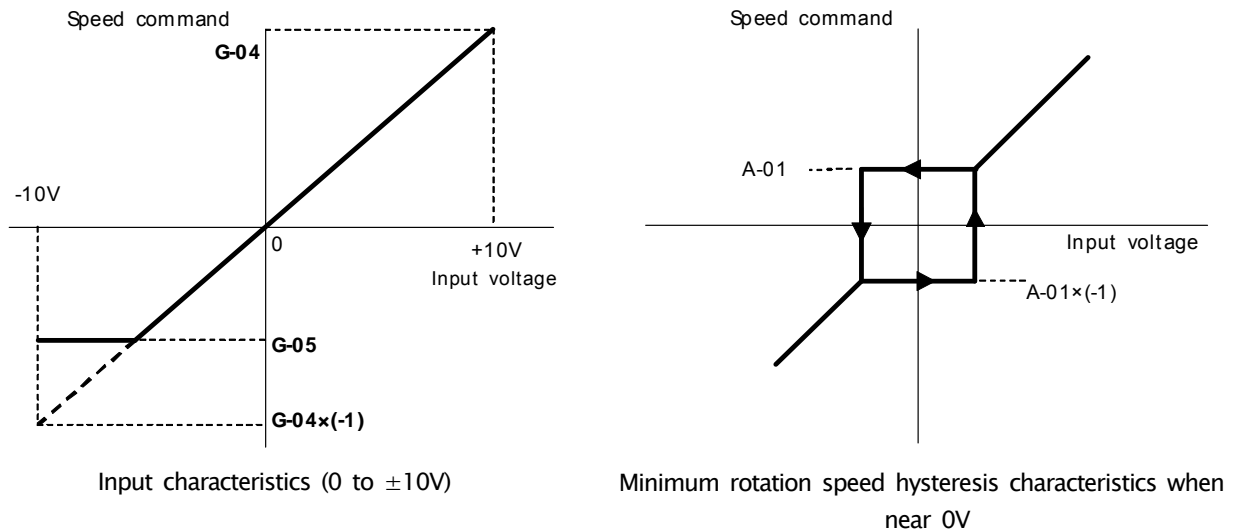

Figure 5.2 Speed command characteristics with voltage input of 0 to ±10V
The rotational direction can be reversed by setting the command input voltage to a negative value. The rotation speed command value is set as the analog input (2) rotation speed upper limit (G-04) when the input is +10V. When the input is -10V, it is set as the negative value of the analog input (2) rotation speed upper limit (G-04). However, it is possible to set a lower limit by setting the analog input (2) rotation speed lower limit (G-05). (Figure 5.2, left) If the minimum rotation speed (A-01) is other than "0", the rotation speed command absolute value is controlled to prevent falling below the minimum speed. In this case, when the command input voltage is around the 0V range, its behavior shows hysteresis characteristics (It will run forward if started in the forward direction and will run in the minimum reverse speed if started in the reverse direction) as shown in the right side of Figure 5.2.